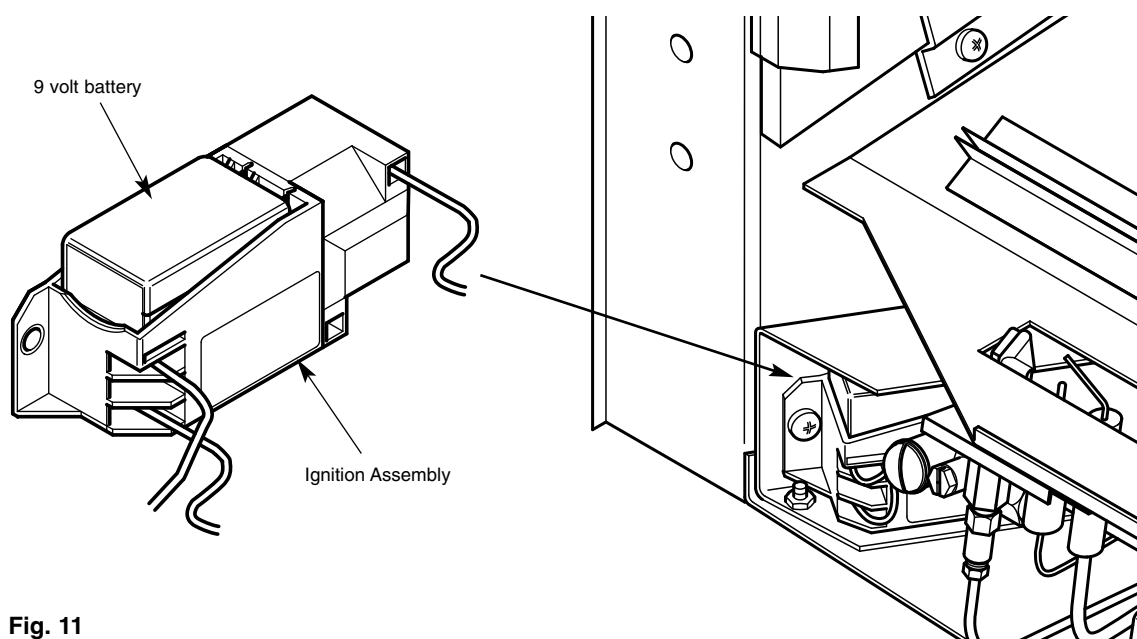

Fig. 11
5. **Battery Replacement** - The battery will need replacing from time to time. To change the battery, switch off the appliance and leave to cool down. Remove the fire front and locate the battery holder (Fig.11). This is located at the bottom left hand side of the appliance. Remove the battery. Replace with a good quality alkaline battery.